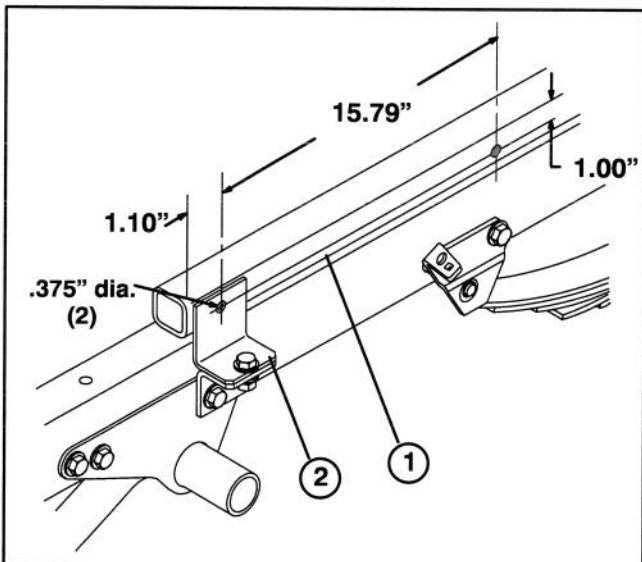

Figure 11
38. Using dimensions shown in figure 11, locate, mark and drill (2) .375 (3/8)" dia. holes, thru both walls, of each H.D. Hitch Frame Tube.